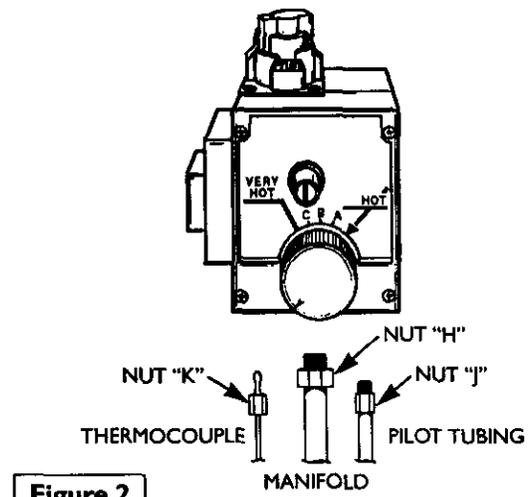
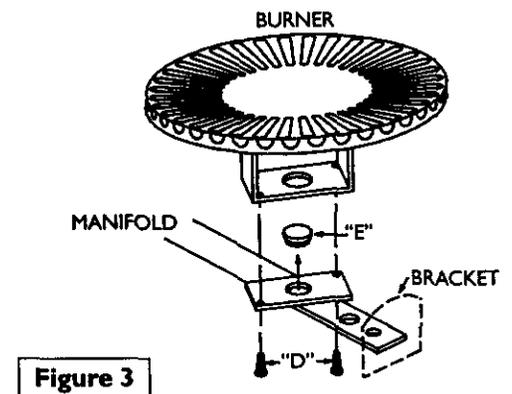

Figure 2
Figure 3
- Step 3. Remove burner assembly from water heater and control by loosening $\frac{3}{4}$ " nut "H" holding burner assembly to control. (See Figure 2, page 17). Loosen pilot tube nut "J" and thermocouple nut "K" at control.
- Step 4. Remove screws "D" disengaging manifold from burner. (See Figure 3, page 17)
- Step 5. Remove orifice "E" (See Figure 3, page 17) using $\frac{3}{8}$ " wrench. Install orifice marked "L.P." found in the bag into manifold. Tighten securely. Secure burner to manifold with screws "D".
- Step 7. Make sure all connections are tightened securely, and reinstall burner assembly into water heater. Position end of the manifold inside bracket as shown in Figure 3 on page 17. Reinstall manifold into control and tighten $\frac{3}{4}$ " nut ("H") securely. Recheck to see that end of manifold is still inside bracket as shown in Figure 3 on page 17. Reinstall pilot tubing and thermocouple into control. (See Figure 2, page 17)
- Step 14. Push in control knob all the way and hold down. Immediately light the pilot with a match. Continue to hold control knob in for about one (1) minute after the pilot is lit. Release knob and it will pop back up. Pilot should remain lit. If it goes out, repeat steps 9 through 12.
- Step 15. Check for gas leaks with only pilot flame burning using a soapy water solution, not a match or open flame. Check for gas leaks at fittings "F" and "G" (See Figure 4, page 17) and at fitting "J" (See Figure 2, page 17).
- Step 19. With a soapy water solution, not a match or open flame, check for gas leaks at gas connection "H". (See Figure 2, page 17). If gas leak occurs, turn off immediately by shutting off gas cock at inlet to control, or by turning gas control knob (↻) to "PILOT" pushing down and turning to "OFF". Repair gas leak as necessary, and repeat steps 9 through 19.